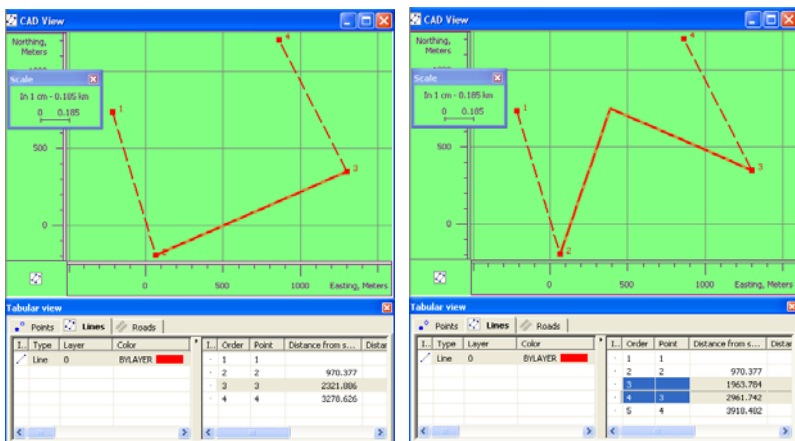

Figure 5-41. Inserting a New Point to the Selected Line
4. Click at the desired place in the CAD View. A new point will be created, the selected line will be deleted, and three points (the start and end point of selected line and the new point) will create two new segments (Figure 5-41 on page 5-33).